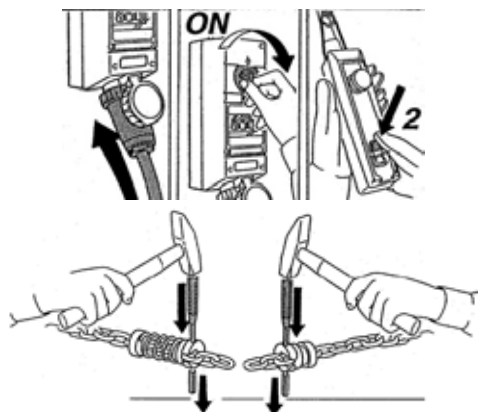

fig.142
11. Press the "2" up button until the hook stops at the limit switch, then release the button. (fig.142)
12. Using a hammer and a pin punch, remove the spring pin from the downward travel limit switch stop located on the old chain, noting its position on the ring. (fig.142)